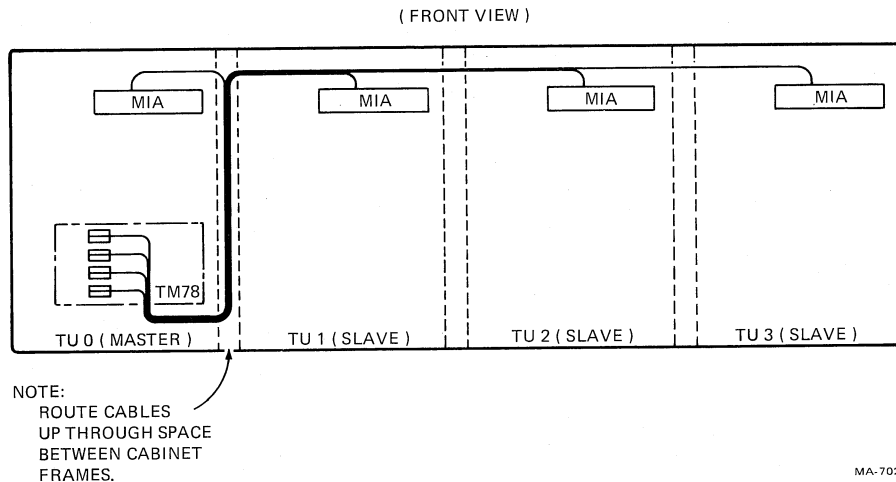
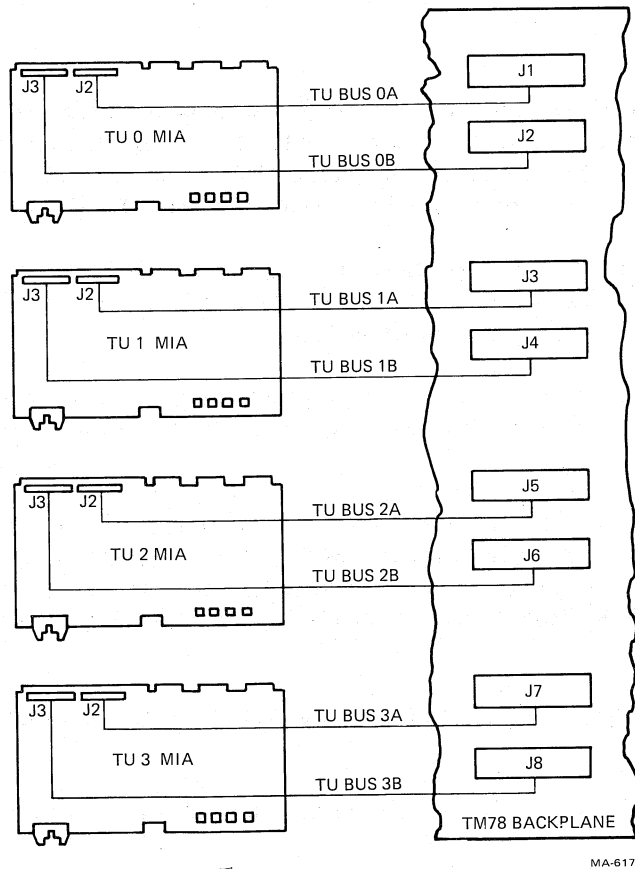

Figure 3-12 TU Bus Cable Routing for a Multiple Transport Configuration
Figure 3-13 Radial TU Bus Connections
Before performing the next step, the TU bus cables for all slave transports must be laid in loosely between the master and first slave (Figure 3-12). There are two 4.6 m (15 ft) cables (PN 70-17382-15) for each slave. Orient the cables so that the red stripe on the side faces the rear of the cabinet. Do not tape the cables together since this would inhibit the replacement of a single cable in the event of failure.
9. Install the TU bus cables between the TM78 in the master transport and the slave transport(s). Figure 3-12 shows the positioning of the cables relative to the cabinet frames. The TU bus for the master transport is prewired at the factory. Figure 3-13 shows the electrical connection for each TU bus cable. Start at the TM78 end of the cable and work toward the MIA (multiple interface adapter) end.
12. Repeat this procedure for each set of cables going to each slave transport. The cables for each succeeding transport should be layed over the preceding transports MIA card (Figure 3-12).